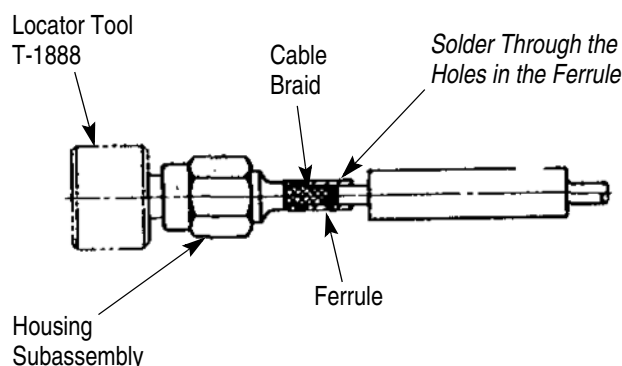

Figure 5
2.3. Soldering Cable Braid to the Housing Subassembly (Figure 5)